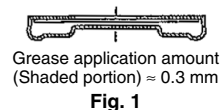
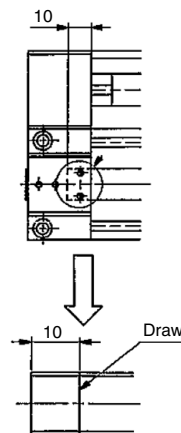

Fig. 1
Fig. 2
- After first performing the additional process shown in Fig. 2, be sure to apply grease to the entire replacement dust seal band in the manner shown in Fig. 1 (Note 1).
- The end cover is fixed so that the clearance between the end cover assembly bottom part and the cylinder tube upper surface is about 1 mm. (fig. 2)
Note 1) Grease uniformly as the fig. 1. Use consistency No. 1 or No. 2 of the lithium soap grease.
Note 4) Ensure that the magic drawing of additional work to the dust seal band (figure 2) is hidden inside the head cover assembly.